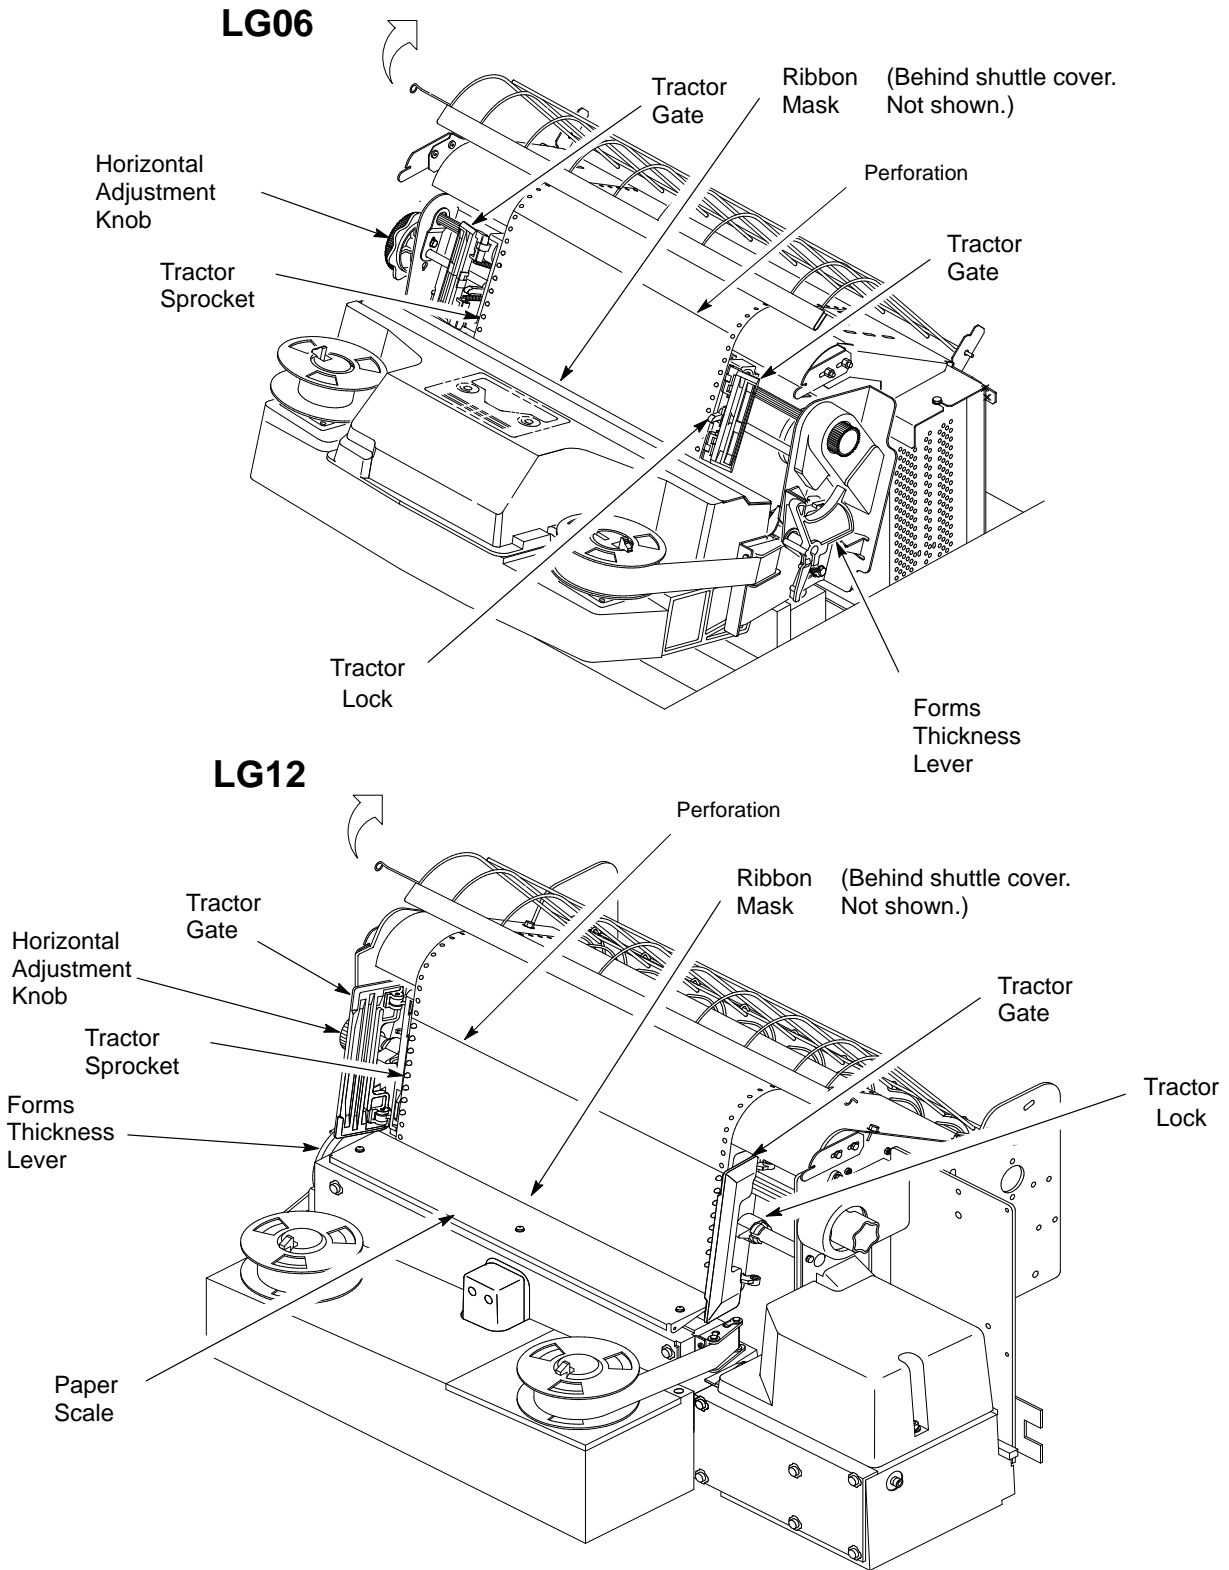

Figure 3-5. Loading and Unloading Paper
3. Fully raise the forms thickness lever. (See Figure 3-5.) When it is completely opened, you will hear a beep and a fault condition exists.